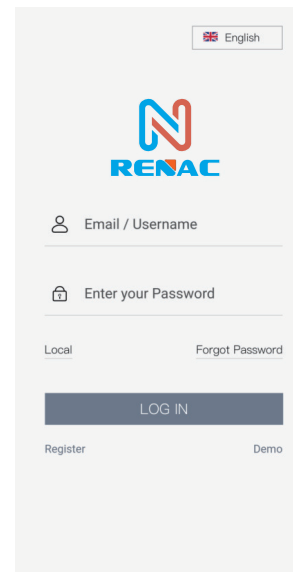
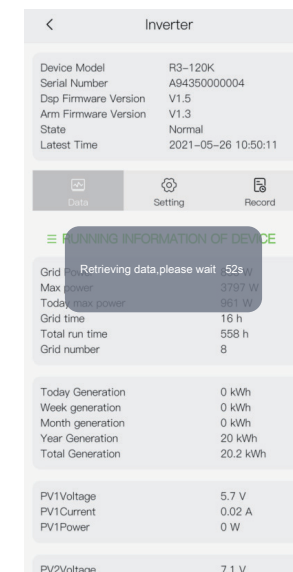

Fig 7-1
Fig 7-2
- ①. After scanning the code to download the Renac SEC APP, the user opens the APP and enters the login interface in Figure 7-1;
- ②. Click the icon of "Local" on the login page, then scan the inverter serial number (Remark: after installed APP on mobile phone, please set all the permissions of the APP to be enabled in the "Settings"- "Apps"- "Permissions", and the permissions included "camera", "Bluetooth", "location info"...etc)
- ③. After scanning the inverter serial number, it enters the interface in Figure 7-2, and the page will automatically search for the bluetooth and connect to inverter. If the search fails, click the "Local" and scan the inverter serial number again.